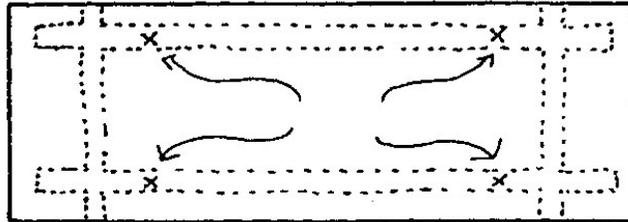

Figure 14.
8. Take the legs and rails off the seat. Drill four holes through the seat centered on the rails, about two inches from where the rails attach to the legs. See Figure 14.